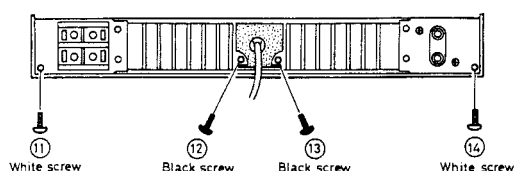

Fig. 3
4. Remove 4 setscrews (⑪ ~ ⑭ in Fig. 3) which secure chassis and heat sink.